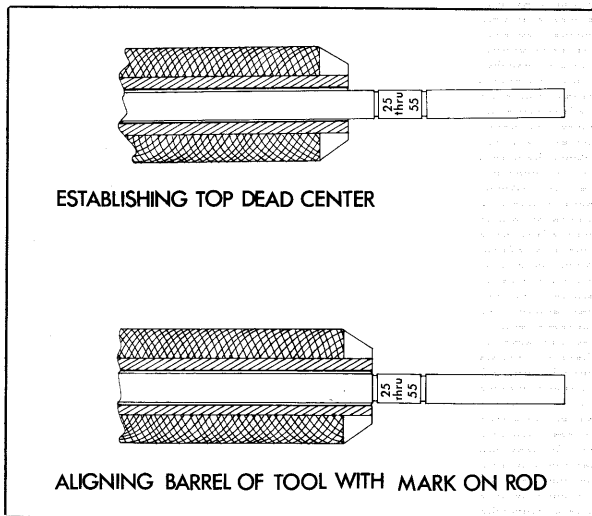

Figure 1 - Locating TDC
- D. Holding rod tight against piston, slowly rotate flywheel in direction of engine to locate top dead center (TDC) or point at which marks on rod extend furthest away from barrel. Screw barrel of the timing tool in or out as required until inside line of the timing rod lines up with edge of barrel. See figure 1.